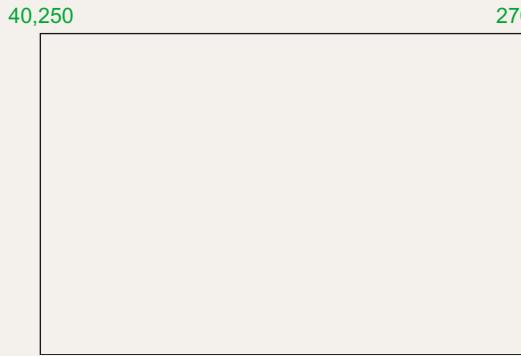

Fig. 2.28 Exercise 1
1. Using the **Line** tool, construct the rectangle Fig. 2.28.